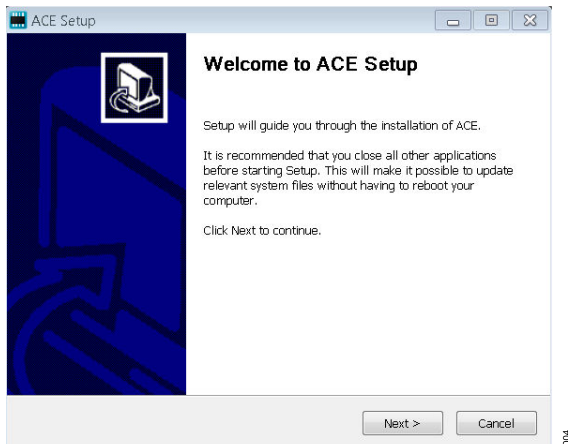

Figure 8. ACE Software Install Confirmation
4. In the **ACE Setup** window, click **Next >** to continue the installation (see Figure 8).